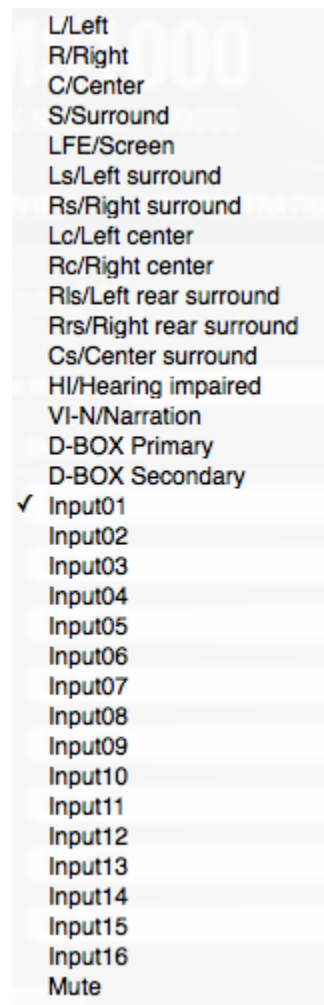

Figure 122: Custom Mapping Parameters
- Click on the drop-down arrow to view the available mapping parameter selection for each output channel (ch.01-ch.16) to select the CPL's audio channel, using its label that is to be routed to the processor (Figure 122).